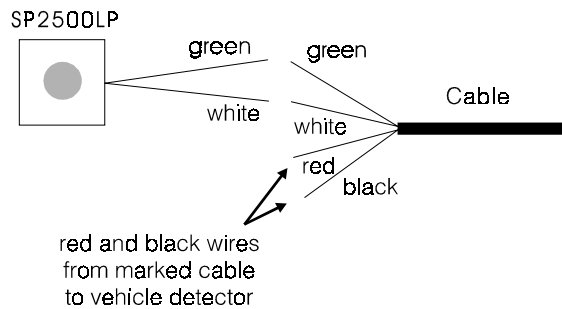

Figure 18. SP2500LP cable connections
- Inside the speaker post or menu board, connect the green and white wires of the appropriate cable to the wires coming from the speaker as shown in Figure 18. Do not connect the drain wire. Solder the connection and cover it with electrical tape or shrink tubing.